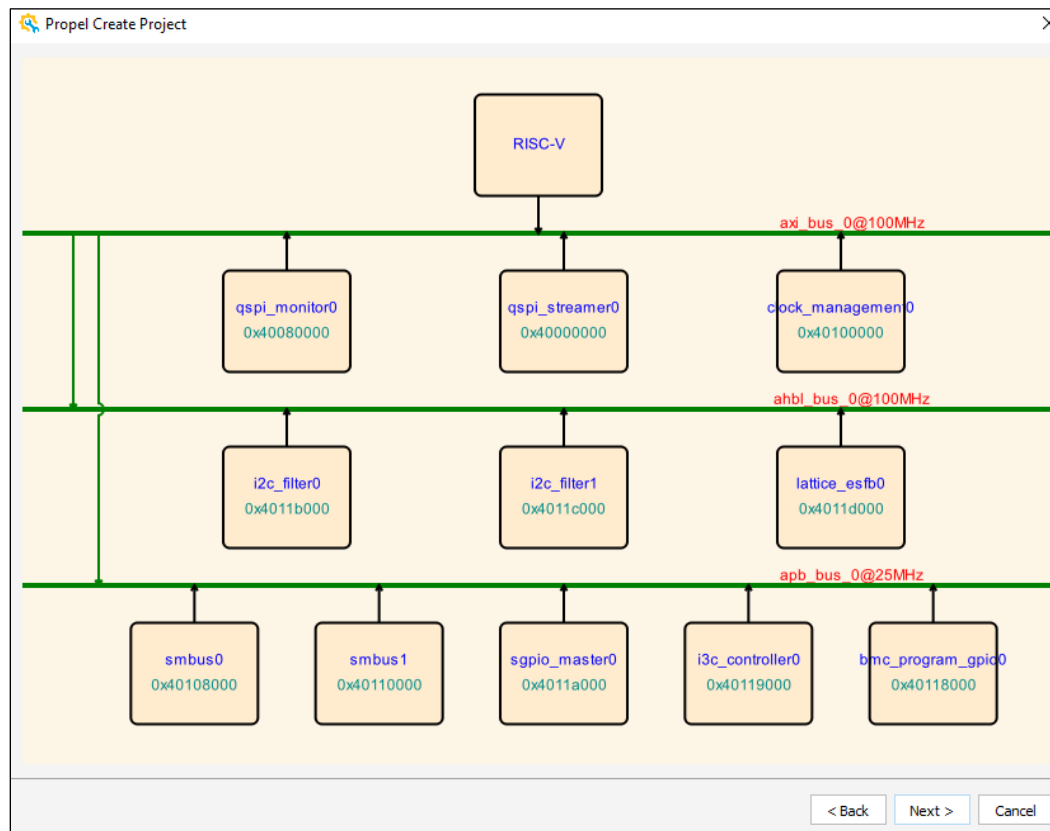

Figure 4.7. Create SoC Project – SoC Sketch
9. The next dialog box shows the SoC sketch. Click **Next** and finish (Figure 4.7).